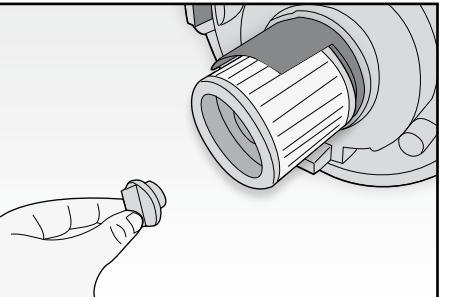

Fig. 8
- Turn the lid (E) upside down and remove it, turning the filter lock cap to remove the filter (FIG. 8).